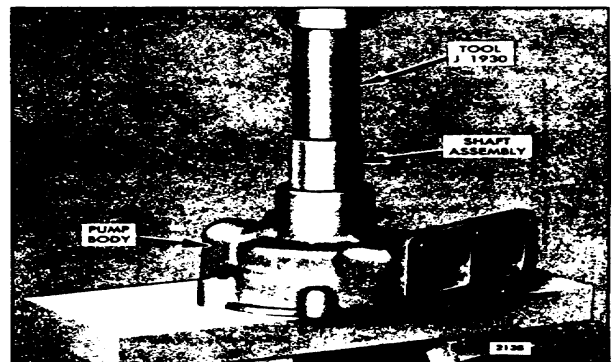

Fig. 5. - Pressing Shaft Assembly into Water Pump
1. Use installer J 1930 to apply pressure to the outer race of the bearing as shown in Fig. 5 and press the shaft and bearing assembly into the pump body until the outer race of the bearing is flush with the outer face of the body.